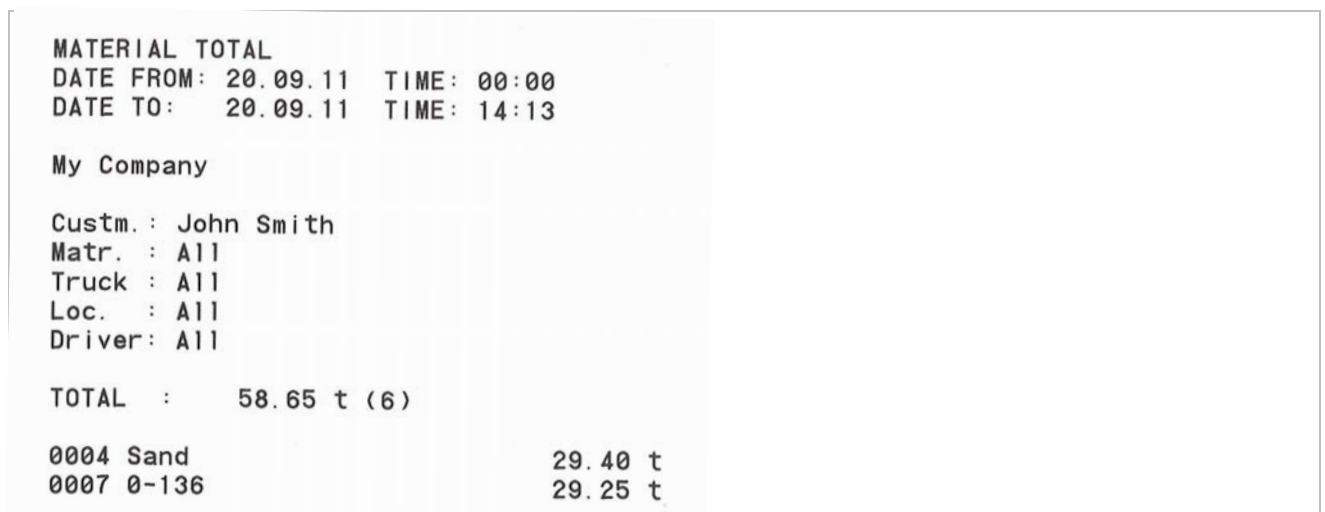
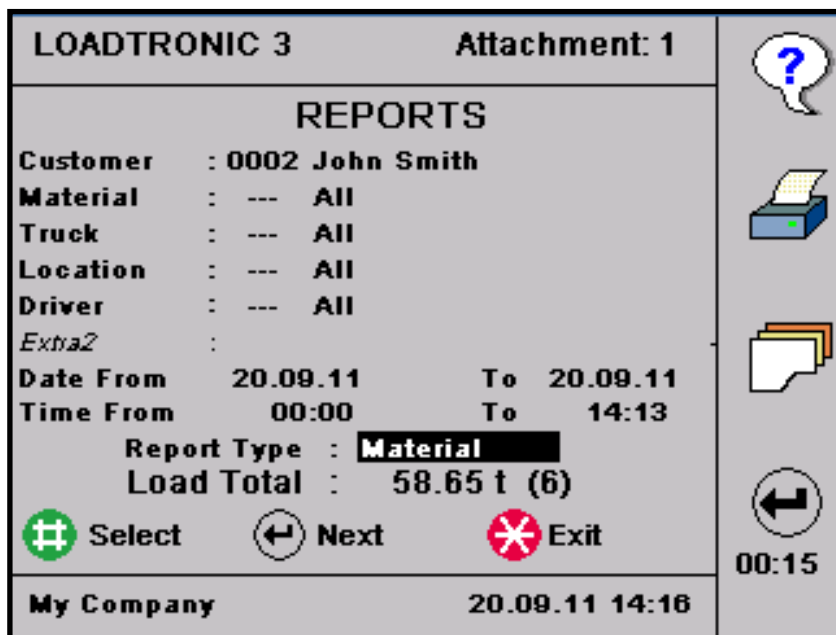

Figure 4-13 Specified report of the material delivered to customer John Smith.
Figure 4-15 Build the specified report as presented in Figure 4-13.
You can specify the report based on one or more of the job details: customer, material etc. An example of such a report is given in Figure 4-13, illustrating that customer John Smith has received 2 different types of material. The report also presents the weight of the material, and the total weight delivered based on the specification. The number of loads delivered is given in parenthesis next to the total weight.
4. Optionally, you can specify the report even more detailed by selecting Customer and/or Material and/or Truck etc, refer Figure 4-13 and Figure 4-15: